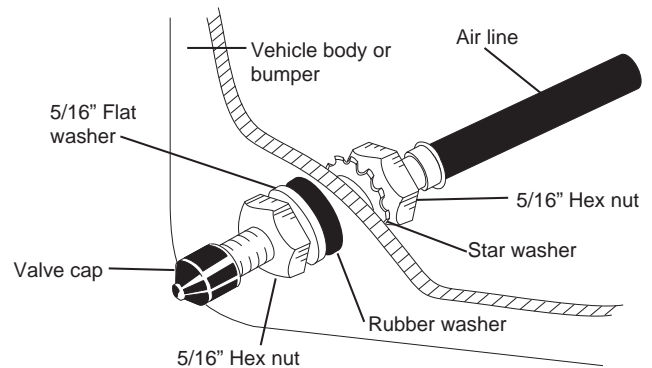

fig. 7
- J. Drill a 5/16" hole for inflation valve and mount as in illustration (Figure 7). Rubber washer is for outside weather seal.
G. Drill 5/16" hole for inflating valves and mount as illustrated. Rubber washer is for outside weather seal (Figure 7).